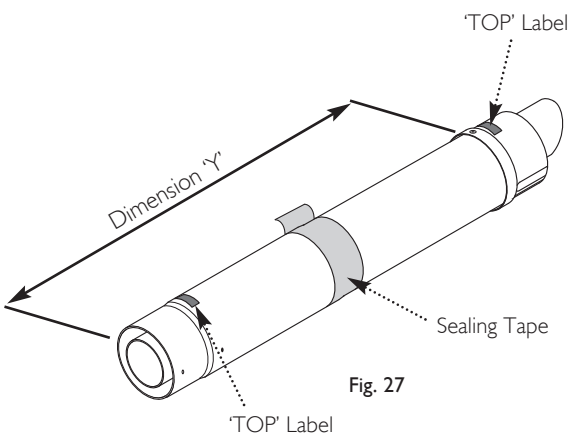

Fig. 27
8. Adjust the two telescopic sections to dimension 'Y' and seal the joint with the tape provided (Fig. 27). Ensure that the labels marked 'TOP' on the Terminal and Connection Assemblies are uppermost.